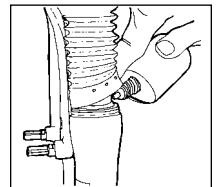

Fig. 4
1. Lift fork boots from lower tubes. Then wipe exterior surfaces, Resi-wiper seal area and upper tube clean. Apply 2-3 drops of Teflon-fortified oil to the upper tubes at the Resi-wiper. (See Fig. 4)